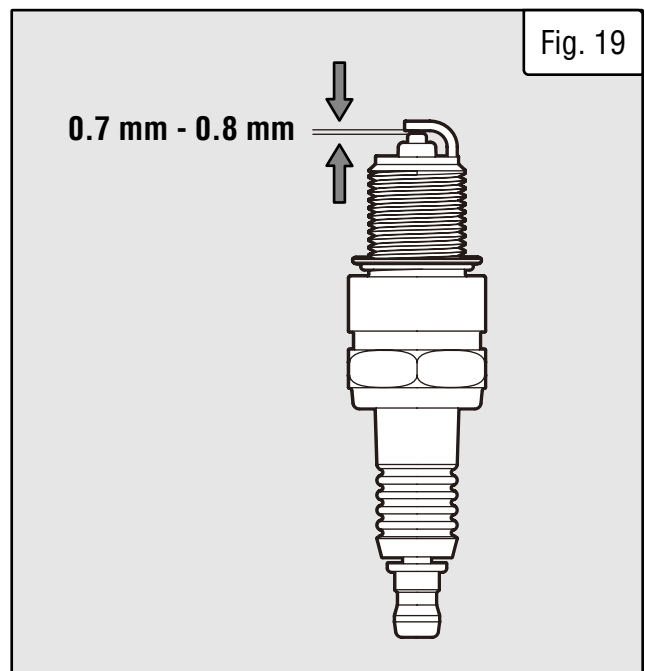

Fig. 19
5. Measure the plug gap with a spark plug gap gauge. The gap should be 0.028 in. - 0.031 in. (0.7mm - 0.8mm) (Fig. 19). Carefully adjust the gap if necessary.